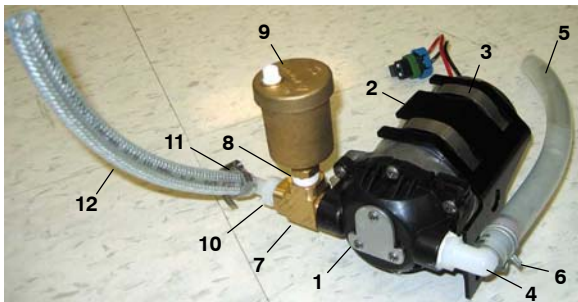

Fig. 20
2. Assemble the *ec-H2O* pump assembly as shown (Figure 20). Use a thread sealer tape on all fittings.
Pump Assembly Parts List (Figure 20)